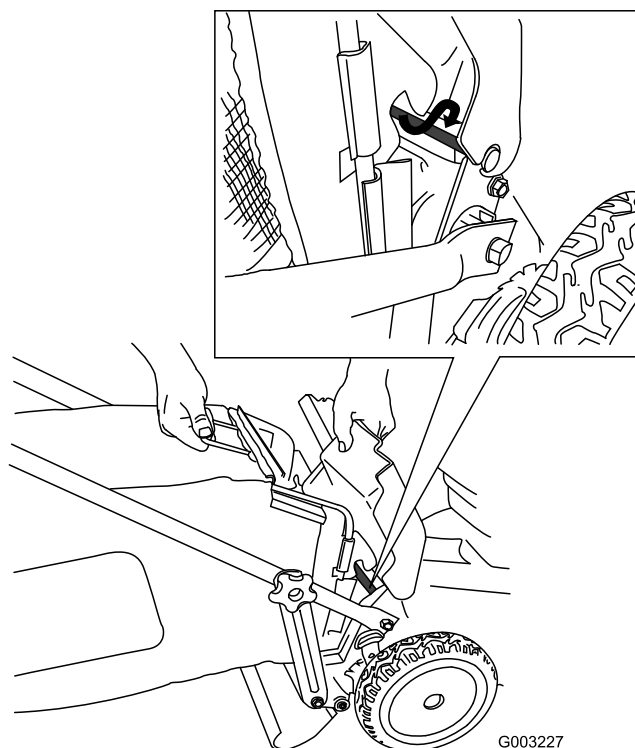

Figure 30
4. Install the bag onto the door rod (Figure 30).